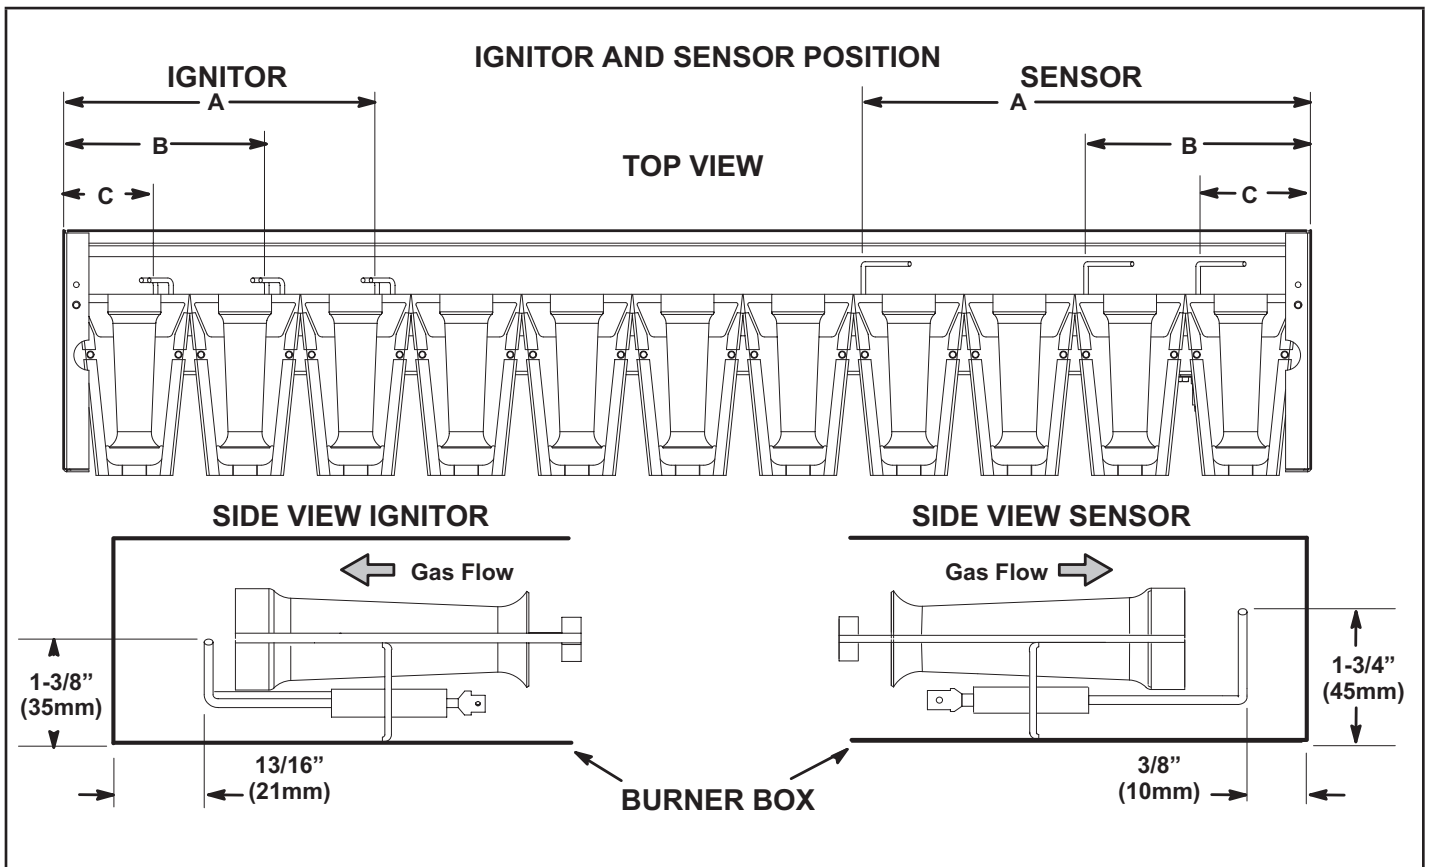

FIGURE 32
- 5 - Check the alignment of the ignitor and the sensor as shown in FIGURE 32 and TABLE 14.